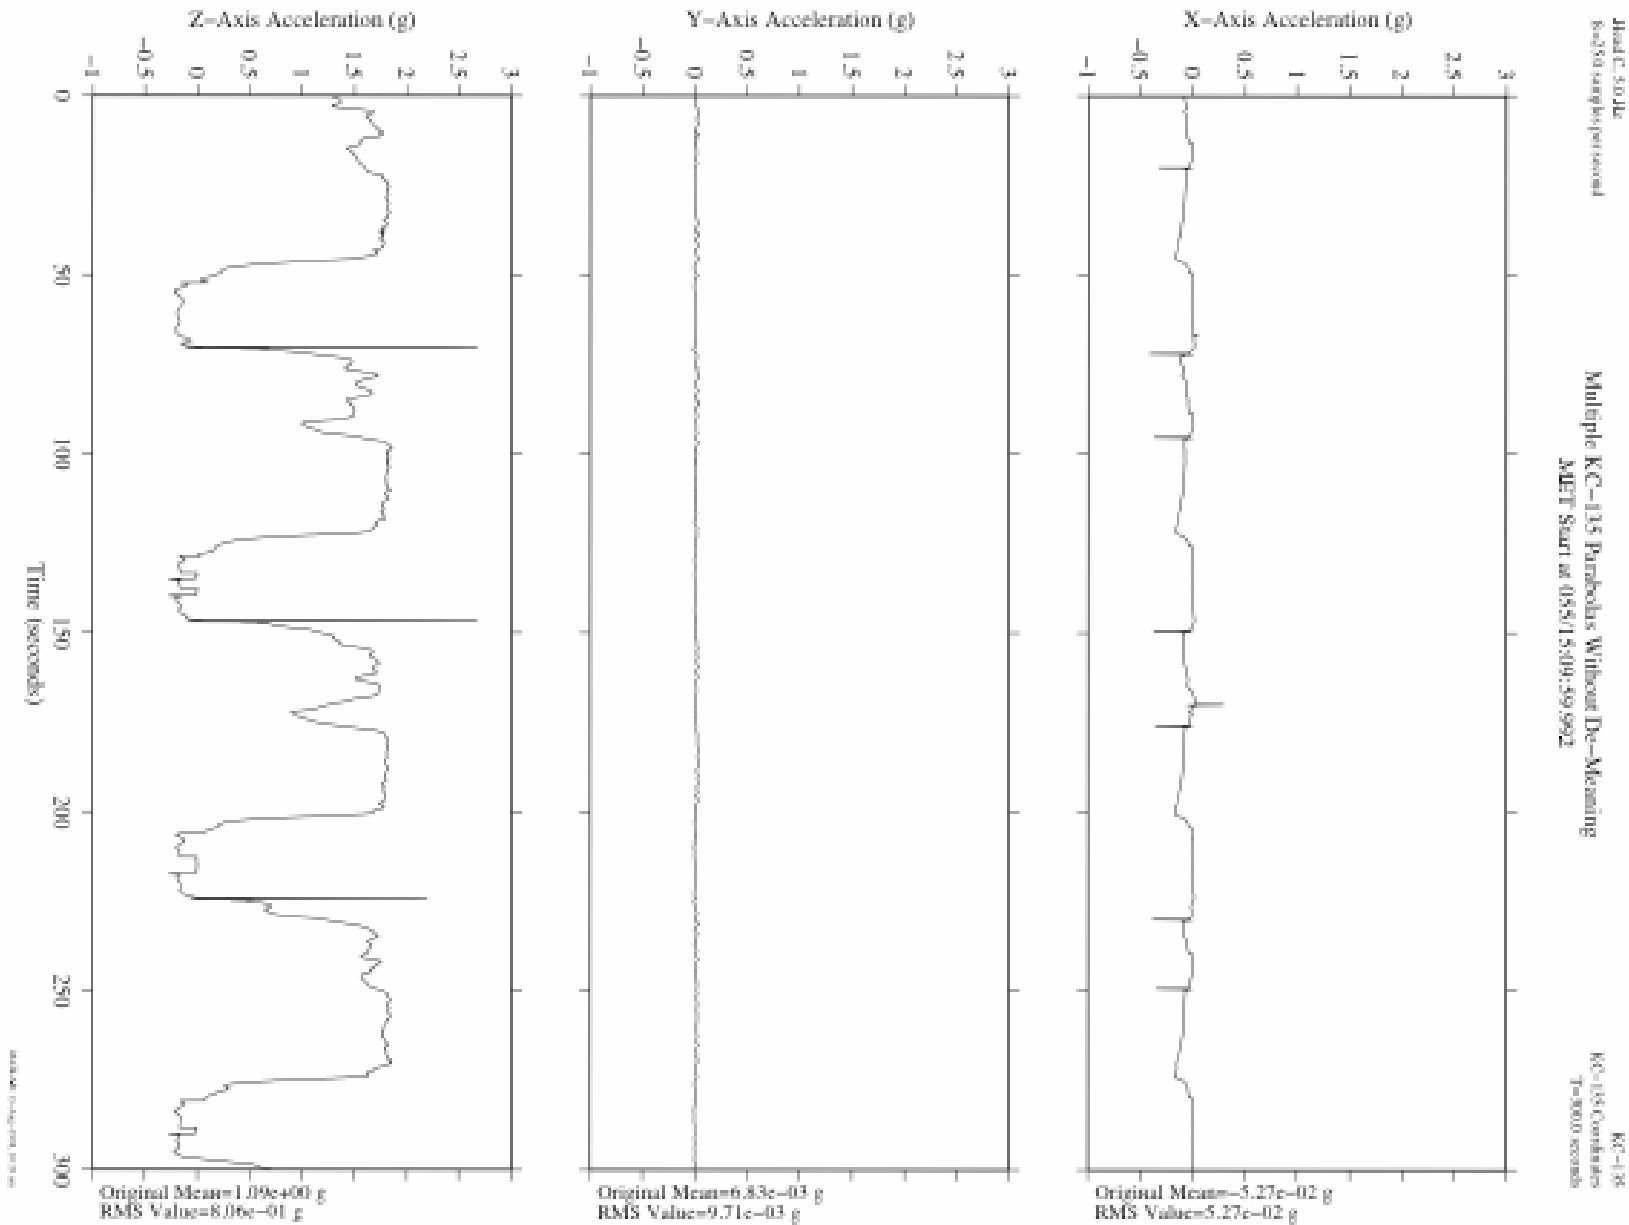

Figure 5 - KC-135 acceleration environment over several parabolas
- **Figure 5 illustrates the KC-135 overall environment over multiple parabolas during a typical campaign**